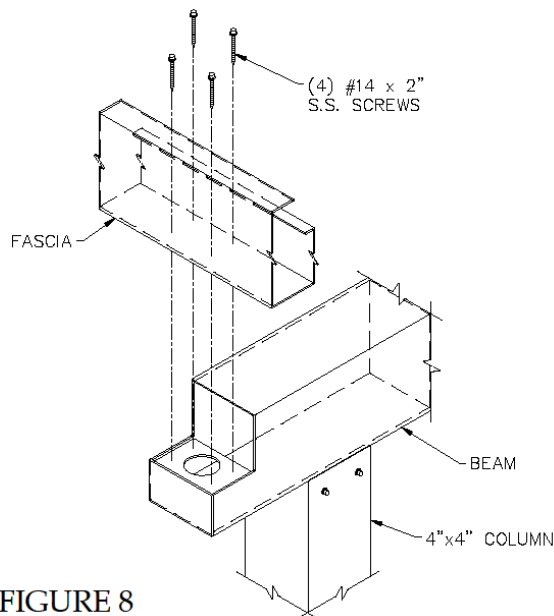

FIGURE 8
- G. Attach the fascia to each beam using (4) #14 x 2" SS screws (Figure 8). If splices are required, attach the fascia together at the splice(s) as it is being attached to the beams (Figure 6).